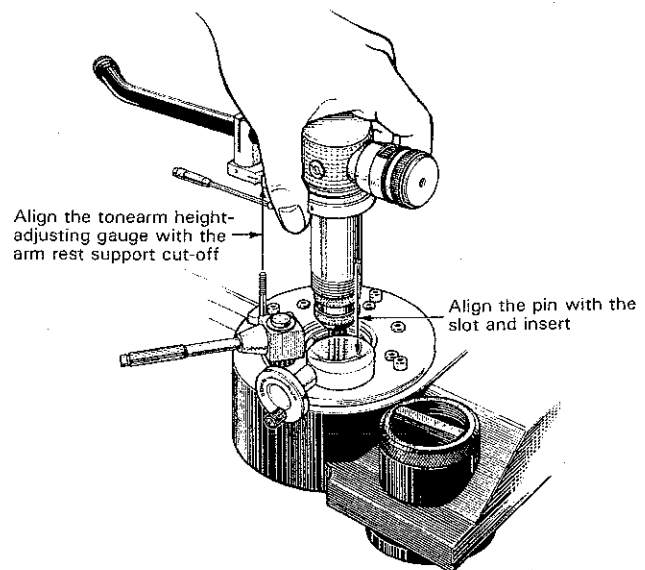
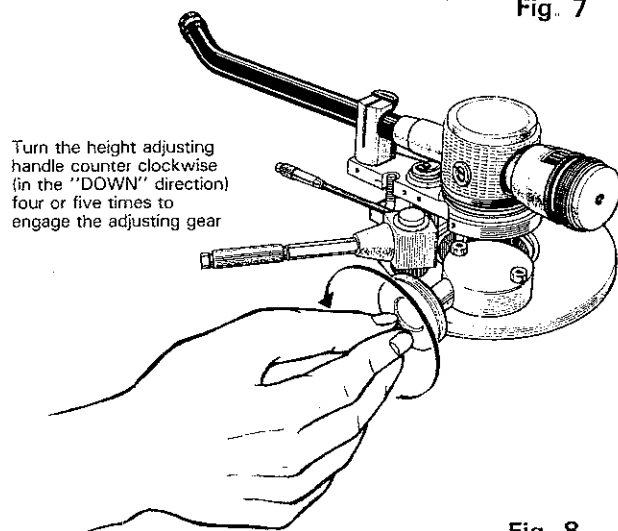

Fig. 7
Fig. 8
2. Align the tonearm height-adjusting gauge with the arm rest support cut-off and carefully insert the tonearm into the arm base (Fig. 7). Turn the height adjusting handle counterclockwise (in the "DOWN" direction) four or five times to engage the adjusting gear. (Fig. 8). Adjust the tonearm height after installing the cartridge (refer to page 9).